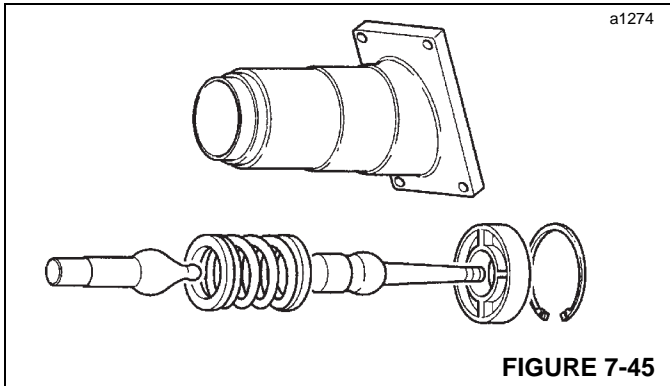

FIGURE 7-45
47. Assemble gear lever components (Figure 7-45), applying grease liberally to the working surfaces.